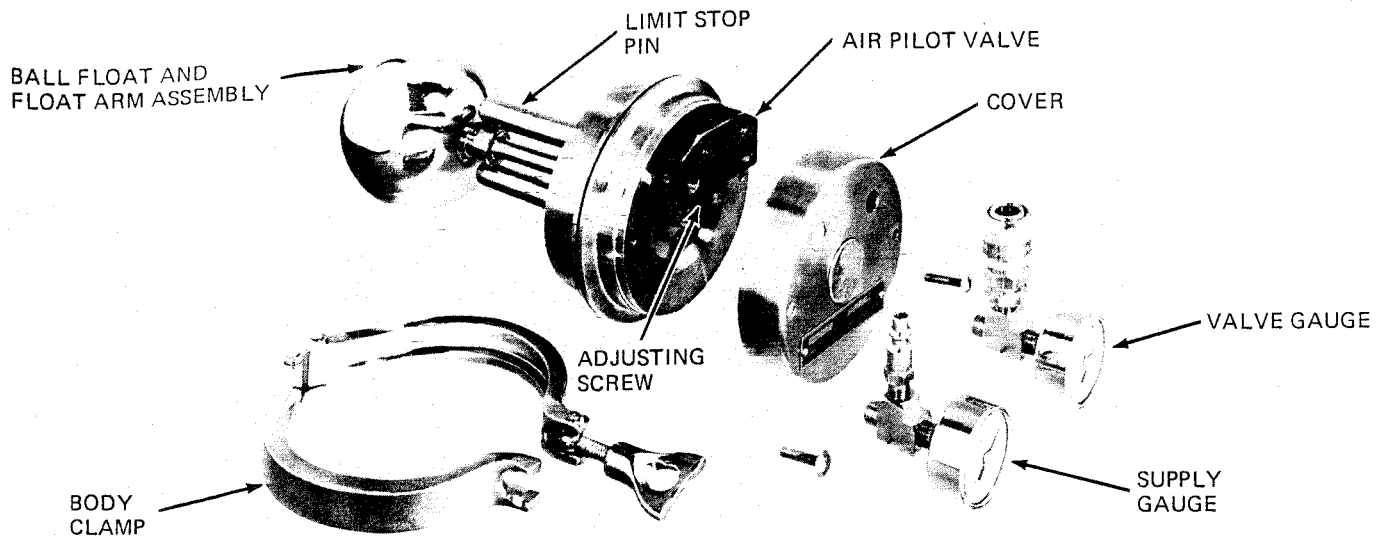

Figure 5. Model 30-101 and 30-102 Level Control - Disassembled
5. If "Valve" gauge reads less than pressure rating shown on "Supply" gauge, turn adjusting screw (Figure 5 or 6) counter-clockwise until both readings are the same, or until air stops escaping from the unit. If "Valve" gauge reads the same as "Supply" gauge, turn adjusting screw clockwise until reading is less than supply gauge - then turn adjusting screw counter-clockwise until both readings are the same or until air stops escaping from the unit.
5. If "Valve" gauge shows a reading, turn adjusting screw (Figure 5 or 6) counter-clockwise until reading is zero or until air stops escaping from the unit. If "Valve" gauge reads zero, turn adjusting screw clockwise until there is a reading - then turn the adjusting screw counter-clockwise until reading is zero or until air stops escaping from the unit.